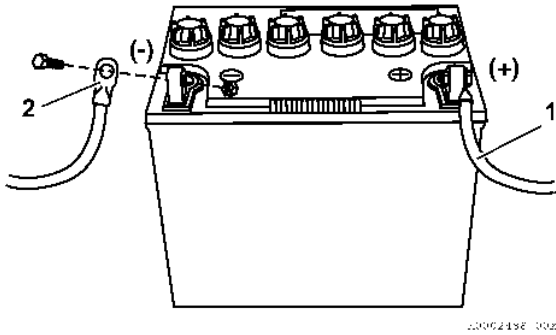

Figure 46
3. When connecting cables to battery connect the positive (+) cable (**Figure 46, (1)**) first.
4. Connect the negative (-) cable (**Figure 46, (2)**) to the battery last.